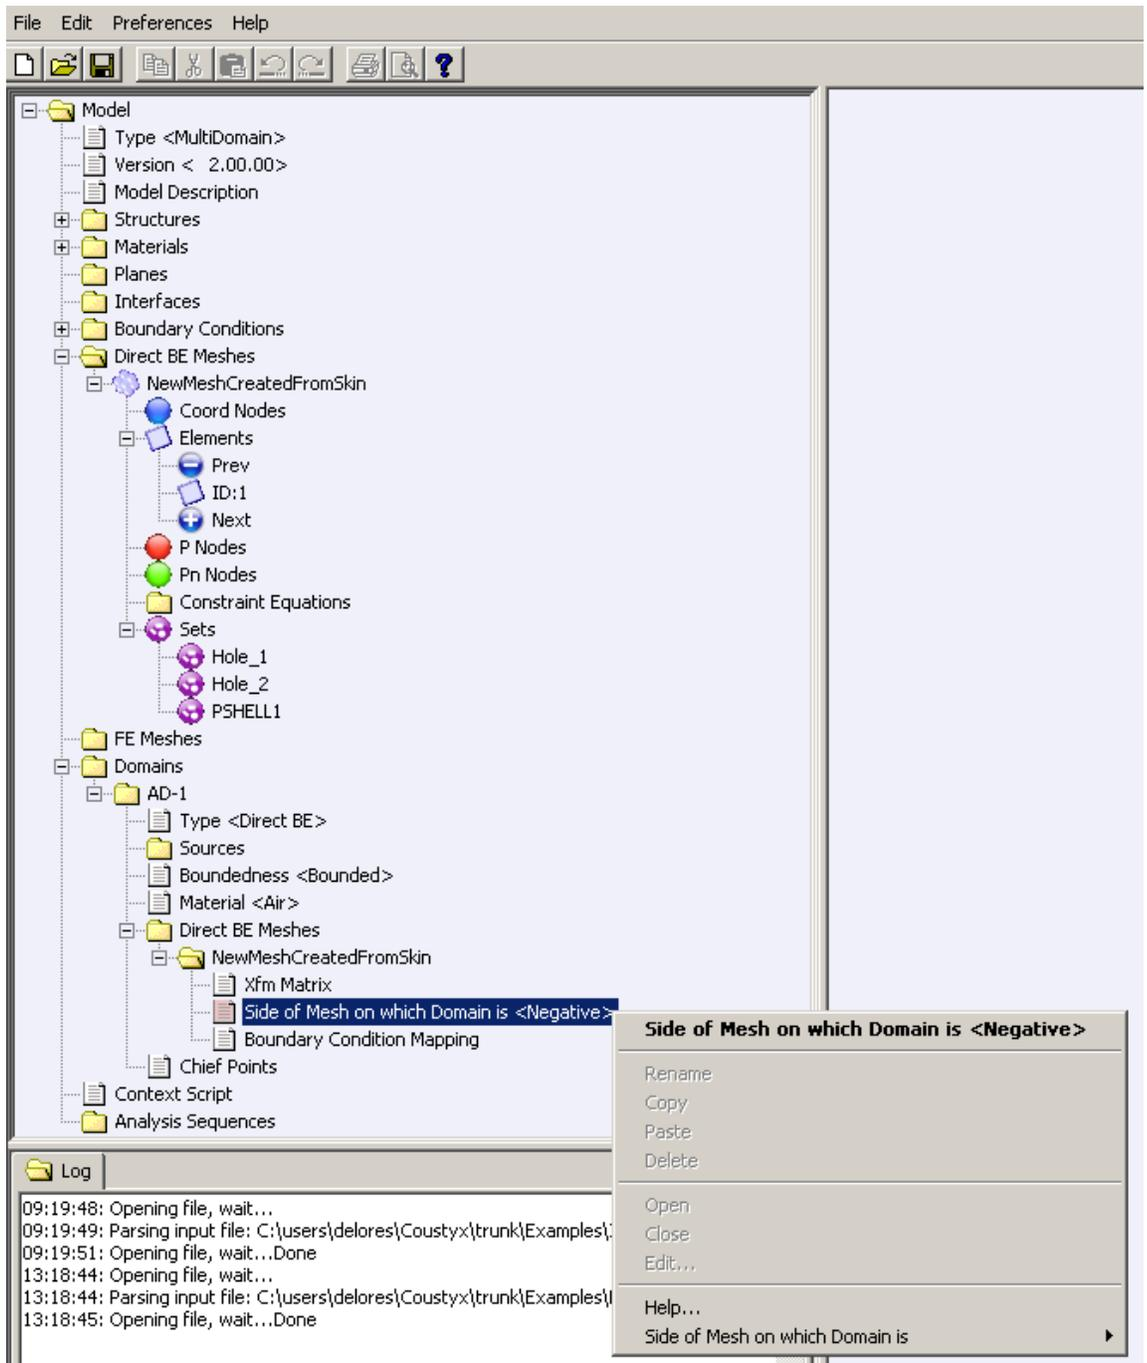

Figure 4.31 Side of Mesh on Domain Function
**Side of Mesh on which Domain is** This is used to set the side of the Mesh on which the Domain is present. Right-click on **Side of Mesh on which Domain is** to select **Side of Mesh on which Domain is** → **Positive** or **Negative** (Figure 4.31). The *positive* side of a mesh is defined as the side with positive mesh normal. For example, consider a sphere mesh with all the element normals pointing inward. The sphere *interior* is on the positive side of the mesh (as the mesh normals point inward) and the *exterior* is on the negative side of this mesh. If you are interested in solving the exterior acoustics problem for this mesh (where the mesh normals point inward), then you need to set the flag to **Negative**. To solve the